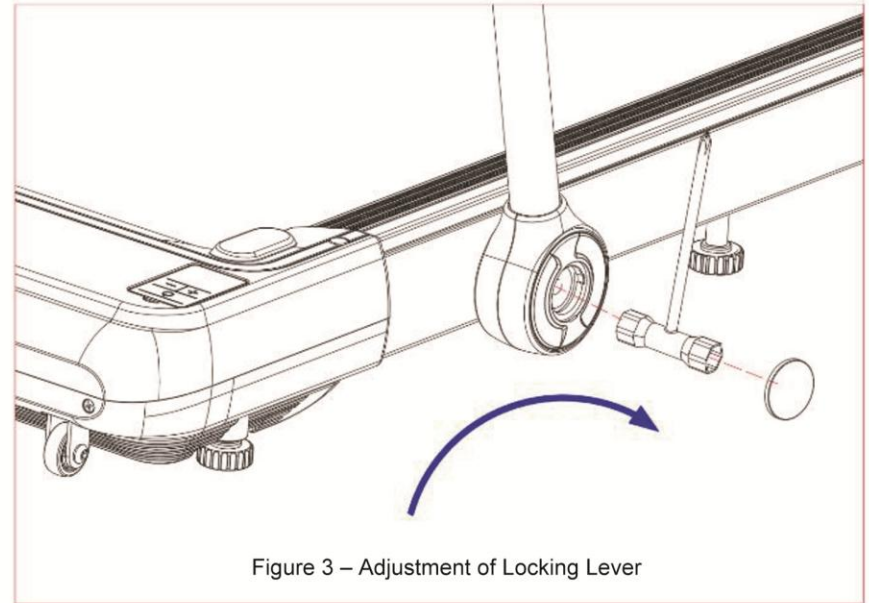

Figure 3 – Adjustment of Locking Lever
1. Remove the round rubber plug at the lower end of the handrail frame to expose the adjustment nut, see Figure 3 – Adjustment of Locking Lever